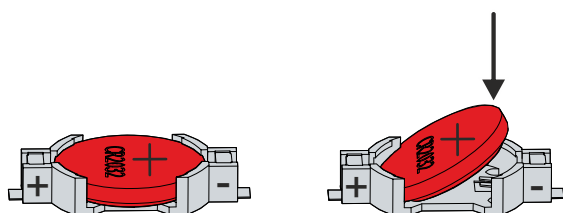

Fig. 17: C6905\_battery change
- ⇒ The battery is now in an oblique position (see fig. 17).
5. Push the high side of the battery down into the battery holder (see fig. 17).